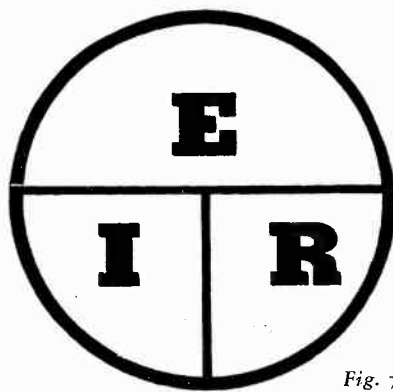

Fig. 7
A VTVM may also be used to determine the AC or DC current flowing in a circuit. Many cannot measure current directly, but, by applying Ohm's Law, the current value can be found quickly. In order to determine the current, you must know the voltage drop across a resistor and the value of the resistor. Resistor value may be determined by reading the color code, or by actually measuring it (resistance measurements will be covered later.) The voltage drop across the resistor can be checked with the VTVM as described previously. When resistance (R) and voltage (E) are known, the current (I) flowing through the part can be found by using Ohm's Law. In Fig. 7 is shown a circle containing the letters E, I, and R. By holding your finger over the unknown value, the formula for finding that value is revealed. For example, if you want to find current, cover up the I, and you will see that current is equal to voltage divided by resistance. By the same token, if E were to be determined, cover up the E and it is evident that current times resistance equals voltage. Finally, if R were unknown, covering up the R would reveal that it is equal to voltage divided by the current. This little symbol is easy to visualize and handy to work with in remembering the 3 different forms of Ohm's Law. You can use this principle to determine current with your VTVM.